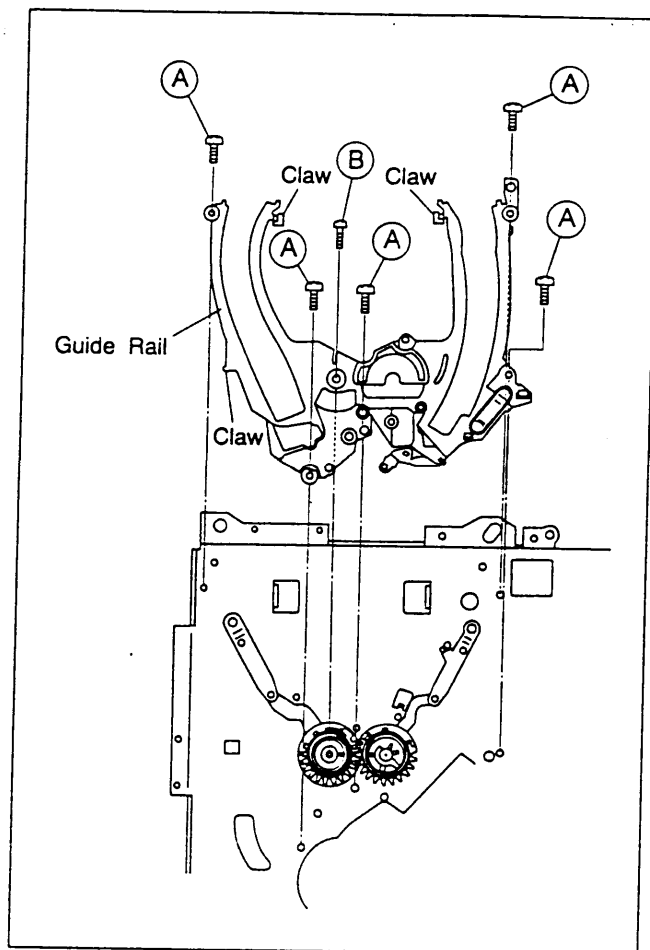

Fig. 2-5-21
- (4) Overlap holes (a) of the upper drum assy with holes (b) of the rotor assy (align holes in 3 locations) and secure with 2 screws (B) as indicated in Fig.2-5-21.